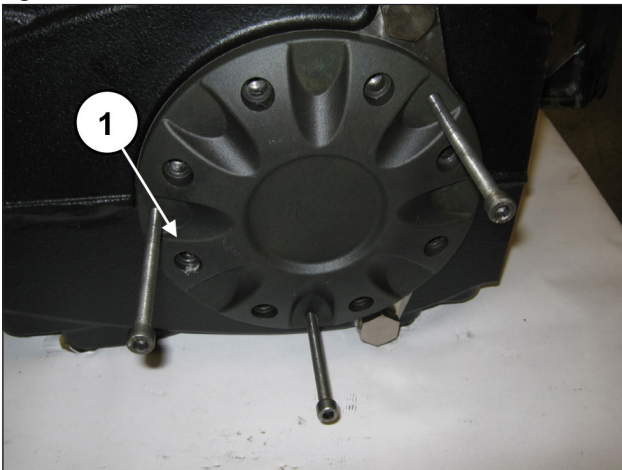

Fig. 28
Position the 3 grub screws or M8 threaded screws (pos. ①, Fig. 28) with the function of extractors in the holes